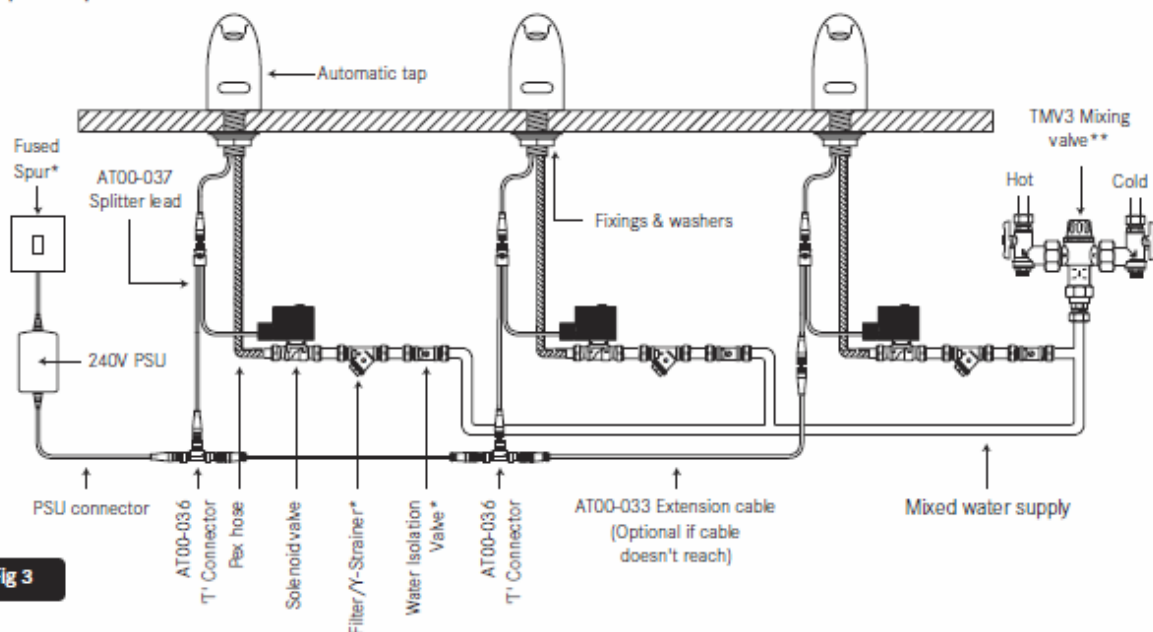

Fig 3
(See Fig.3 for connection leads for 2 station and 3 station kits)
- Check / Clean all connectors (shown in Fig 3).